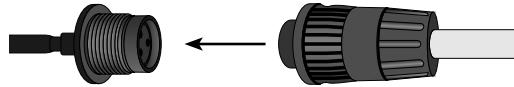

Figure 1
1. Plug the circular connector from the humidistat cable into the circular connector on the unit as shown in Figure 1.